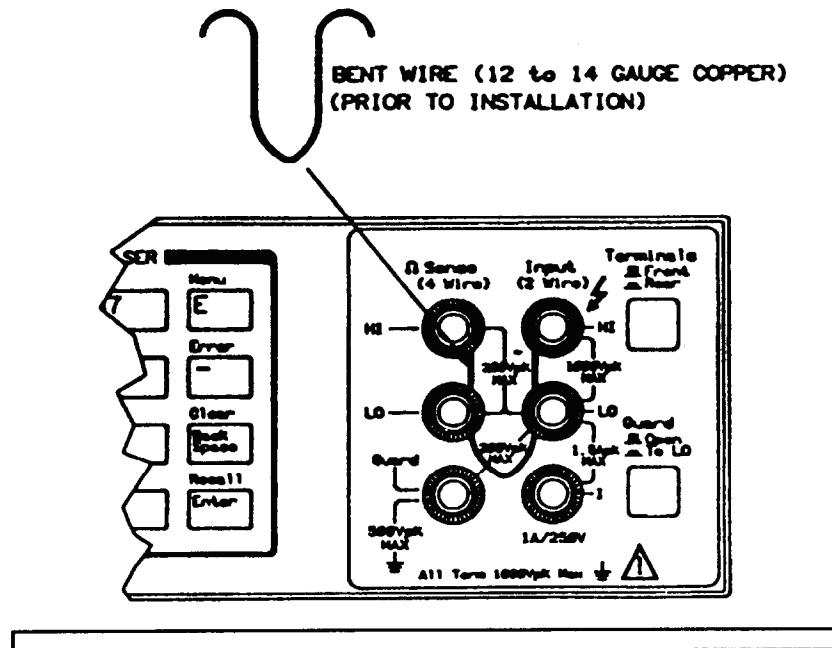

Figure 1. 4-terminal short.
- (3) Press keys as listed in (a) through (g) below:
- (4) Connect a low thermal short across TI front panel **HI** and **LO** terminals as shown in figure 1.
(4) Connect a low thermal short across TI front panel **Input HI** and **LO**.
(5) Press **FUNCTION/RANGE Range \downarrow** key to 10Ω range and allow 5 minutes for the range relays to thermally stabilize.
(6) Press **MENU Trig** key then **NUMERIC/USER Enter** key. TI indication will be ≤ 00.25007 .
(7) Remove short from front panel **Input HI** and **LO** and reinstall across rear panel **Ω Sense** and **Input HI** and **LO** using technique shown in figure 1.
(8) Press **Terminals Front/Rear** pushbutton to **Rear**.
(9) Press **FUNCTION/RANGE** blue shift key then **OHMF/OHM** key.
(10) Press **FUNCTION/RANGE Range** \downarrow key to 10 Ω range.
(11) Press **MENU Trig** key then **NUMERIC/USER Enter** key. TI indication will be ≤ 00.00007 .
(12) Remove short from rear panel **Ω Sense** and **Input HI** and **LO**. Release **Terminals Front/Rear** pushbutton to **Front** and press **Guard Open/To LO** pushbutton to **To LO**.